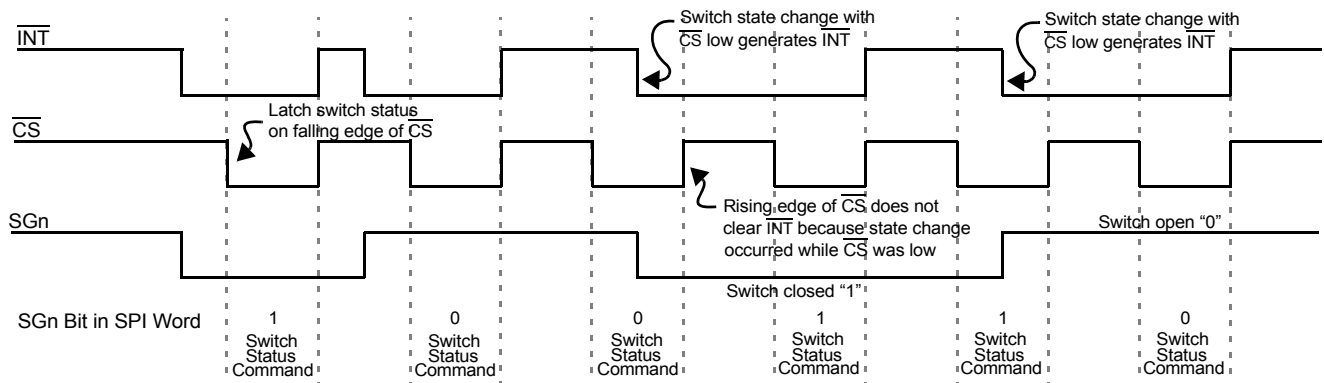

Figure 6. Normal Mode Interrupt Operation
2.  $\overline{INT}$  pin is reset to logic [1], except when additional switch changes occur during  $\overline{CS}$  low. (See Figure 6.)
Figure 6 is a graphical description of the device operation in Normal mode. Switch states are latched into the input register on the falling edge of CS. The INT to the MCU is cleared on the rising edge of CS. However, INT will not clear on rising edge of CS if a switch has closed during SPI communication (CS low). This prevents switch states from being missed by the MCU.